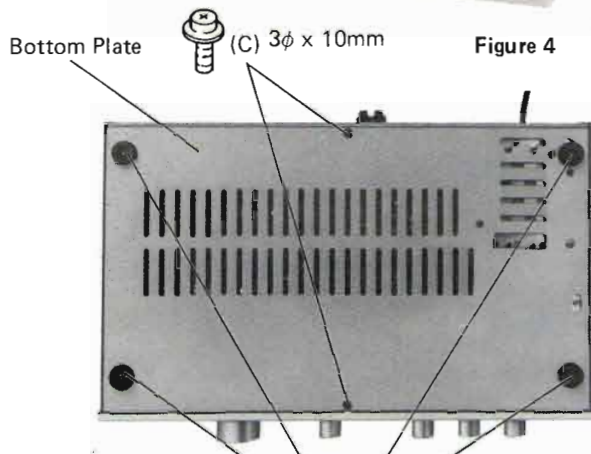

Figure 5
1. Remove two screws (C) ($3\phi \times 10\text{mm}$) holding the bottom plate as shown in Figure 5.
2. Remove four screws (D) ($3\phi \times 12\text{mm}$) holding the legs on the bottom plate. Then, the bottom plate can be removed from the unit, and the P.C. Board can be checked easily as shown in Figure 5.